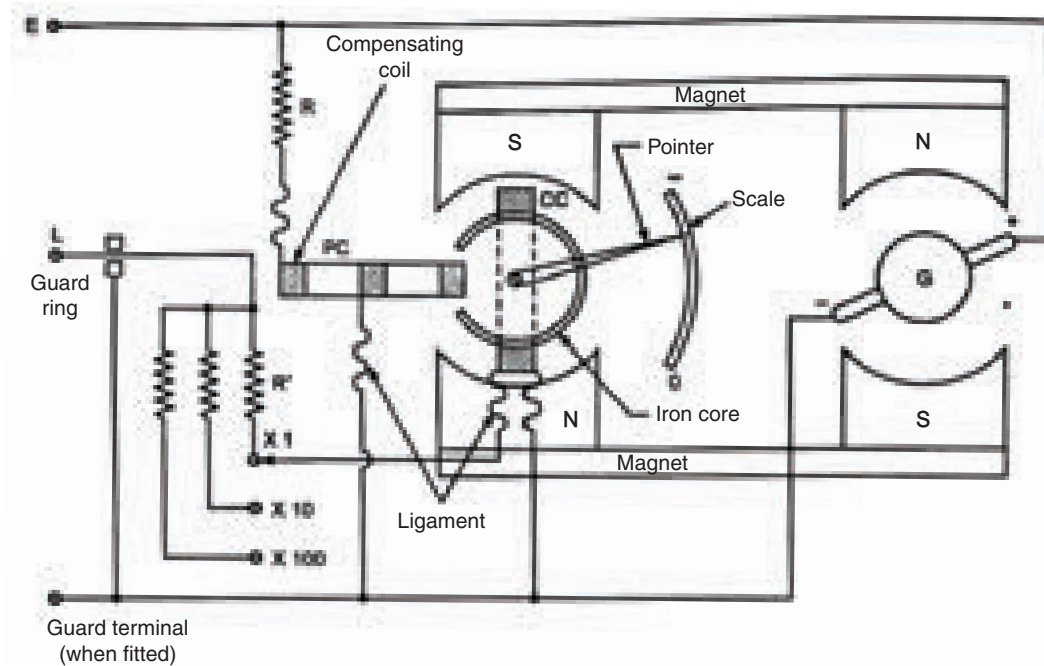

Fig. 6.12 Megger
An instrument used for the measurement of high resistance or the insulation resistance is called as megger or insulation tester. The simplified connection diagram of megger is shown in figure 6.12. It has three terminals, namely, the line (L), the earth (E), and the guard.